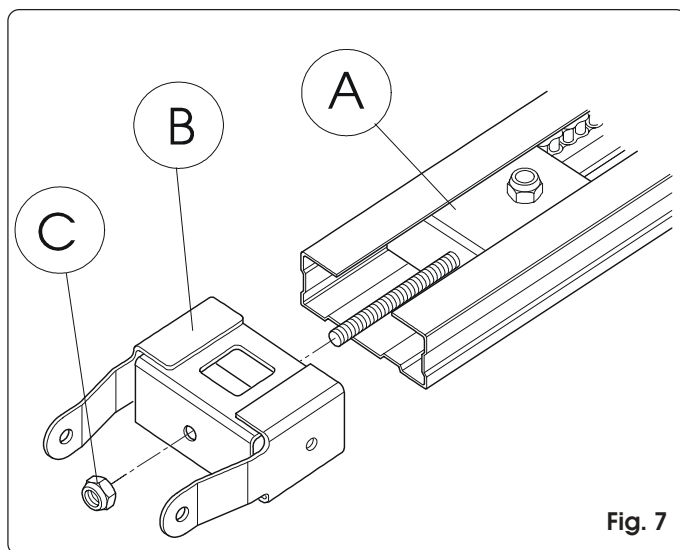

Fig. 7
- 2) Slide the transmission unit all the way along the sliding guide (fig. 7 ref. A) bringing it near the front terminal.
- 3) Fit the front connection (fig. 7 ref. B) to the transmission unit (fig. 7 ref. A).
- 4) Tighten the chain a little by tightening the nut (fig. 7 ref. C).